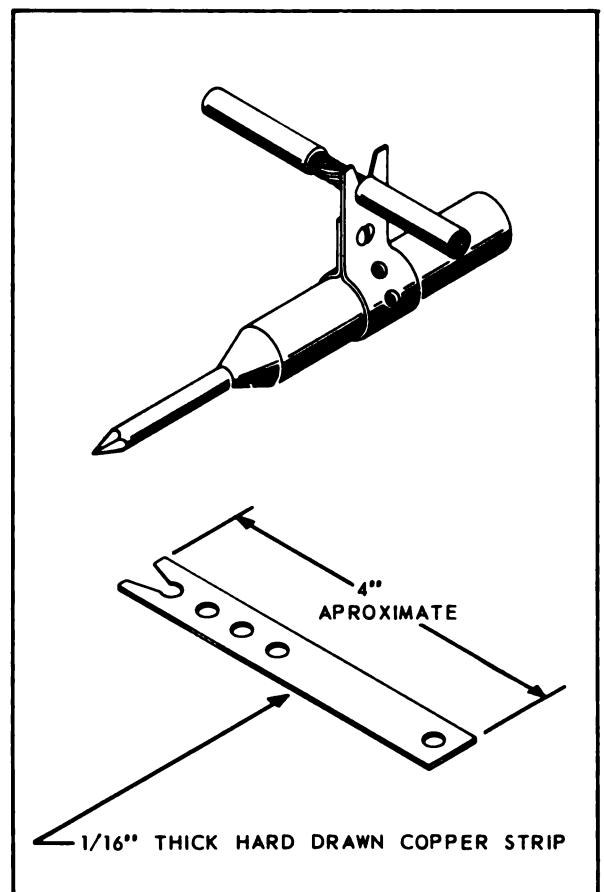

Figure 2-19. Substitute Hot Blade Stripper
2-43. SUBSTITUTE HOT-BLADE STRIPPER. Where a hot-blade wire stripper is not available, a substitute can be made and used as follows: See figure 2-19.
- b. Fasten the copper strip around the heating element of an electric soldering iron as shown in figure 2-19.